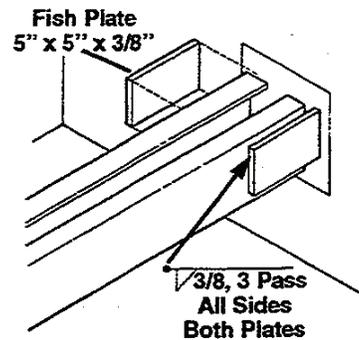

Figure 19
15. Weld fish plates to the center channels of the leveler and to the plate imbedded in the rear pit wall as shown in Figure 19.